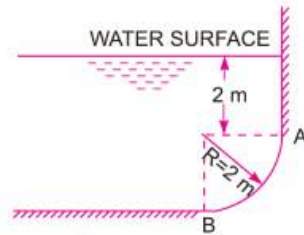

Fig. 3.57
18. Find the horizontal and vertical components of the total force acting on a curved surface AB, which is in the form of a quadrant of a circle of radius 2 m as shown in Fig. 3.57. Take the width of the gate 2 m. [Ans. $F_x = 117.72 \text{ kN}$, $F_y = 140.114 \text{ kN}$]